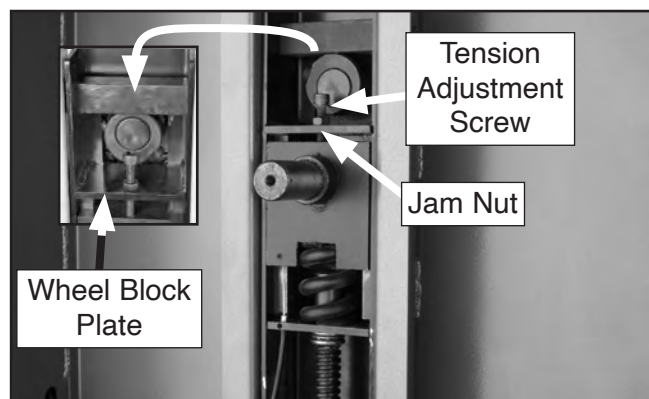

Figure 78. Example of quick release tension lever adjustment screw.
5. Thread the tension adjustment screw (see **Figure 78**) down until it contacts the wheel block plate, then back it off 1-2 turns.